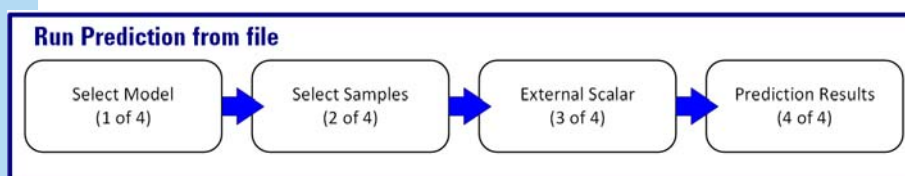

Figure 162 Flow chart of the Run Prediction from file wizard
The **Run Prediction from file** wizard has four (4) steps and involves additional dialog boxes to open the validation data files and reorder the samples. A flow chart of validating your class prediction model using Run Prediction from file is shown in Figure 162.